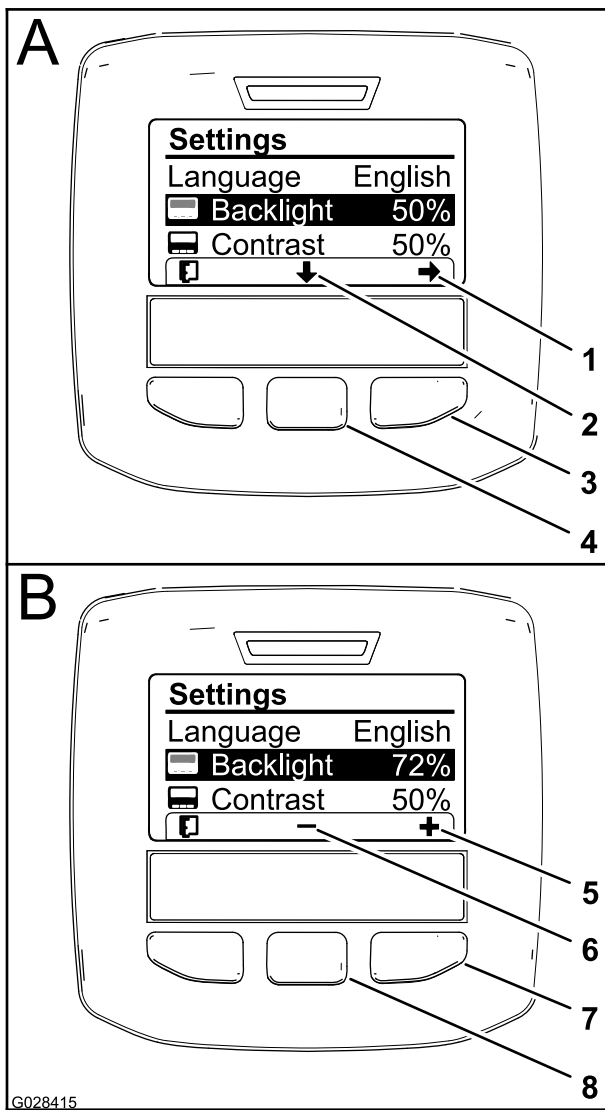

Figure 64
2. To adjust the backlight level of the display, press the center selection button (the button below the down arrow icon in the display) to move the selected option down to the Backlight setting (Figure 64).
- Press the right selection button to display the value adjustment context (Figure 64).
- Use the center selection button and right selection button to change the brightness level of the display (Figure 64).
- selection, exit the Backlight menu, and return to the Settings menu (Figure 64).
- To adjust the contrast level of the display, press the center selection button (the button below the down arrow icon in the display) to move the selected option down to the Contrast setting (Figure 64).
- Press the left selection button (the button below the list icon in the display) to save your selection, exit the Contrast menu, and return to the Settings menu (Figure 64).
- Press the left selection button to exit the Settings menu and return to the Main Menu (Figure 62 and Figure 64).
- Press the left selection button to return to the Home screen (Figure 64).